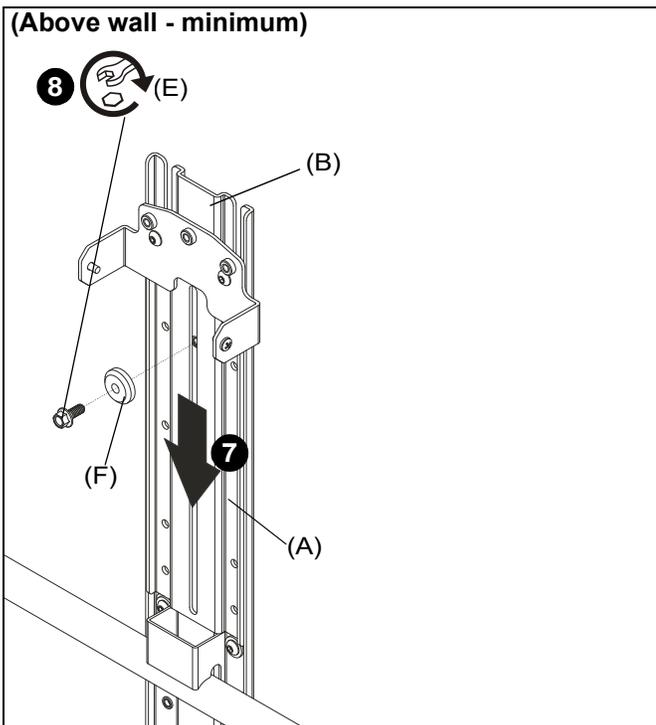

Figure 16
7. (For **minimum/intermediate extension**) Slide upright bracket (A) in front of main bracket (B). (See Figure 16)
8. (For **minimum/intermediate extension**) Use 1/4-20 x 5/8" hex head flange bolt (E) and center washer (F) to secure upright bracket (A) to main bracket (B). (See Figure 16)